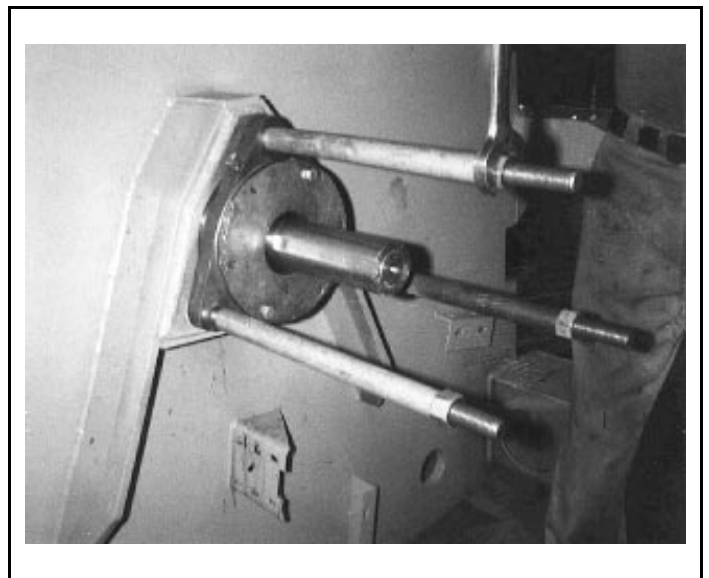

FIGURE 9 (MSSM0303AE)
8. Install the third guide rod, spacers if required, and hex-nuts, using these to seat the housing fully, as shown in FIGURE 9. Remove the seal sleeve setting fixture.